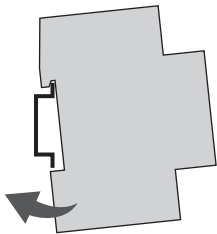

Fig. 5: Installation on a DIN rail
1. Place the LAN module on the DIN rail (Fig. 5) from above and press it back until it locks into place.